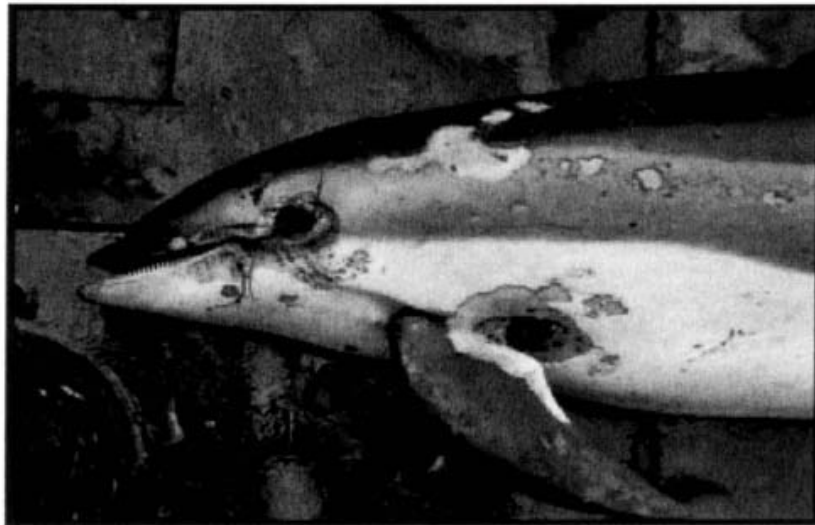

Figure 2. Illustration of Animal Condition Code 12
- 12 Dead, moderately decomposed. See Figure 2.